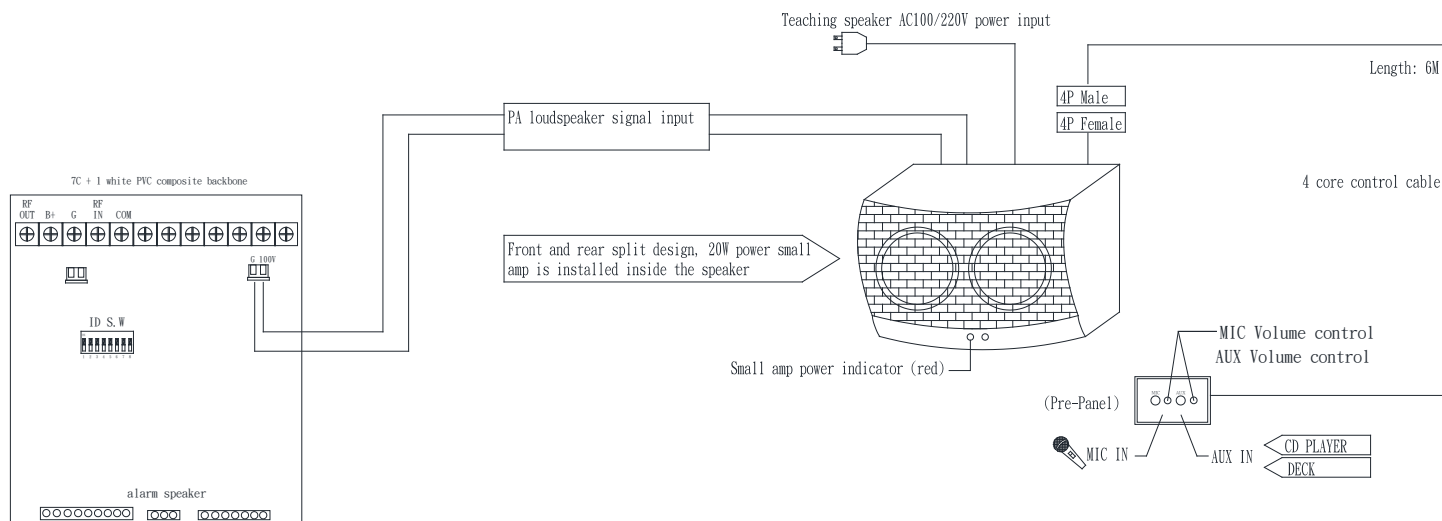

Fig. 4 Remote Decoder is used with BXB amplifier teaching speaker (WS-817AL, WS-665A)
2. Users are able to connect external speakers (ceiling speakers, horn speakers...etc.), simply connect both red and black wires (Fig. 4) to the speaker's output autotransformer (there is no difference between cathode and anode)
Please refer to Fig. 4 for connection instructions.